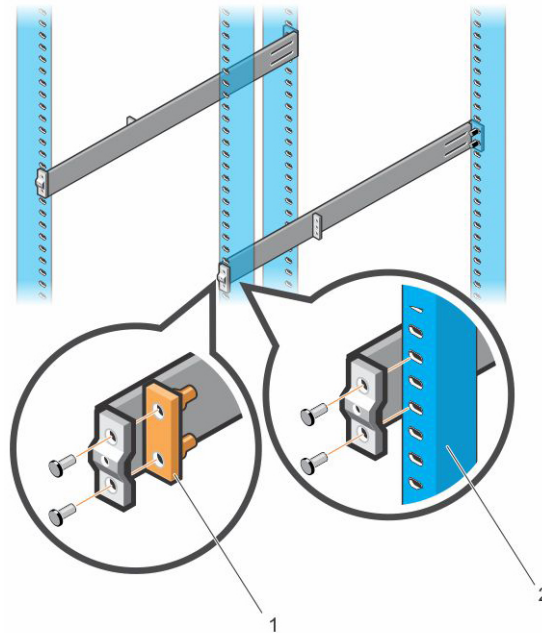

Figure 17. Four-Post Threaded Configuration
1. For this configuration, remove the flange ear castings from each end of the ReadyRails assemblies. Use a Torx driver to remove the two screws from each flange ear and remove each casting. See item 1 in Figure 17. Retain the castings for future rack requirements.
2. For each rail, attach the front and back flanges to the post flanges with two user-supplied screws at each end. See item 2.